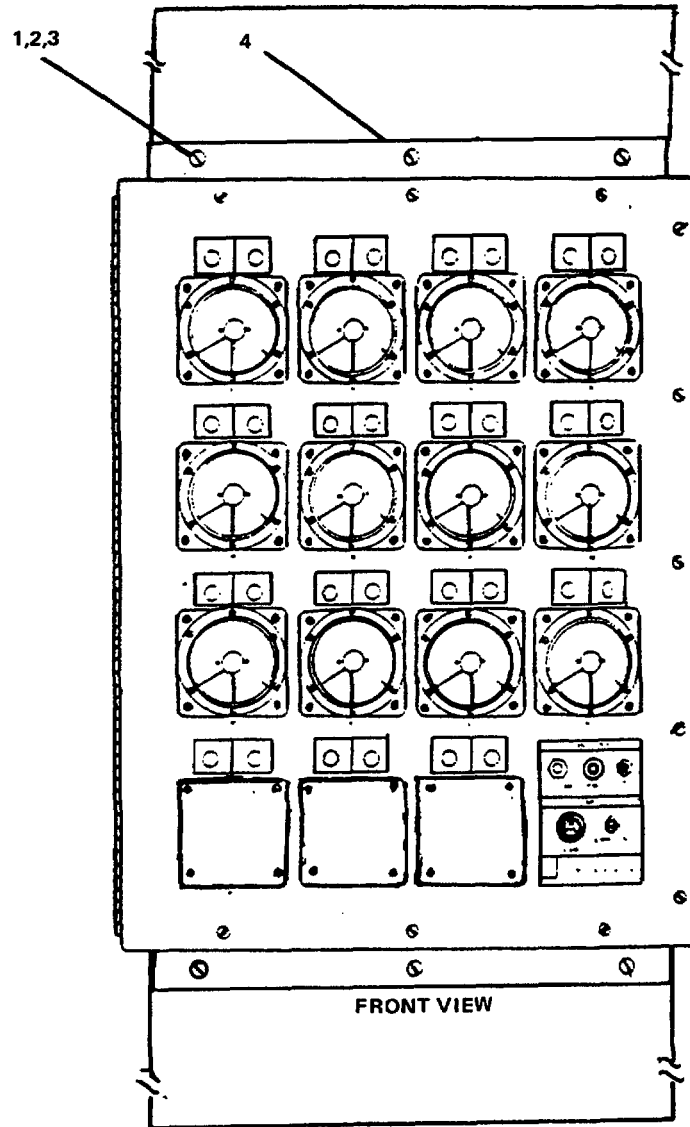

FIGURE 3-44. *Receiver Module, Box Assembly.*
**REMOVAL (Figure 3-44)**
- a. Tag and disconnect electrical cable connectors at top of box assembly (4).
- b. Remove six plain hex nuts (3), lockwashers (2), and hex head capscrews (1)securing receiver module box assembly to support mount.